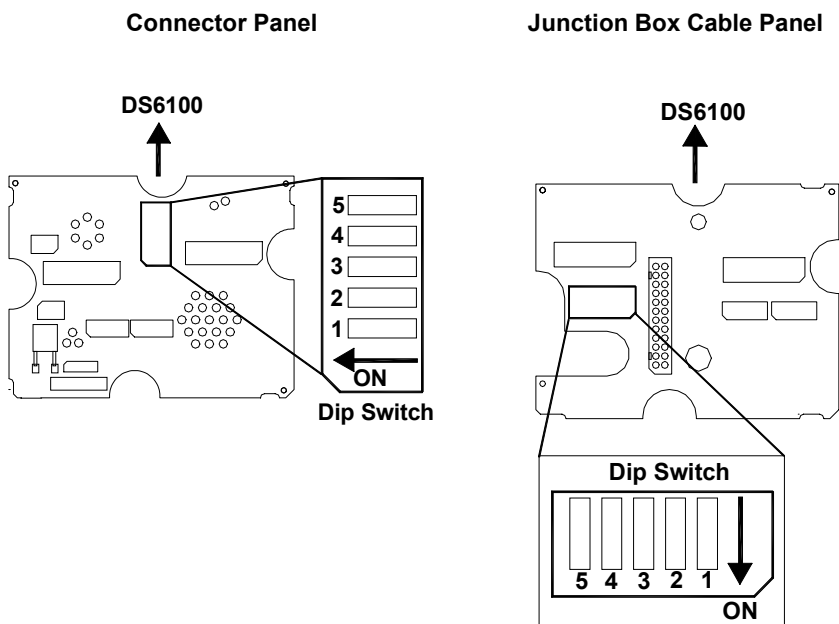

Figure 3 – DS6100 Multidrop Address Selection
2. Position the switches as desired, referring to Figure 3.